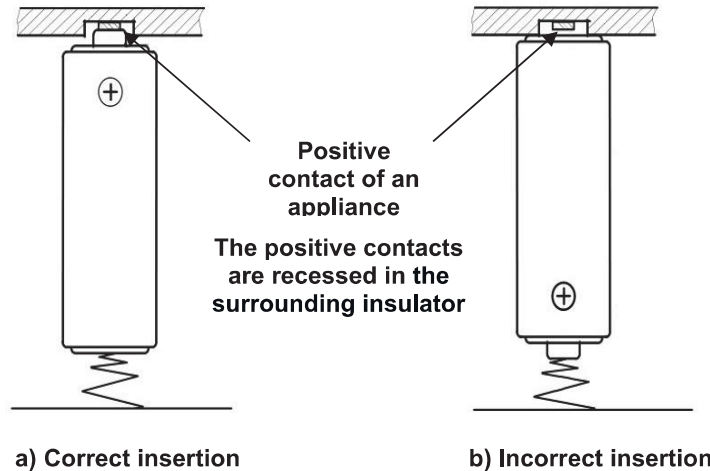

Figure 1 – Example of the design of a positive contact of an appliance
15.2 To overcome the problems associated with the reversed placement of a battery, consideration should be given at the design stage to ensure that batteries cannot be installed incorrectly or, if so installed, will not make electrical contact (see Figure 1).